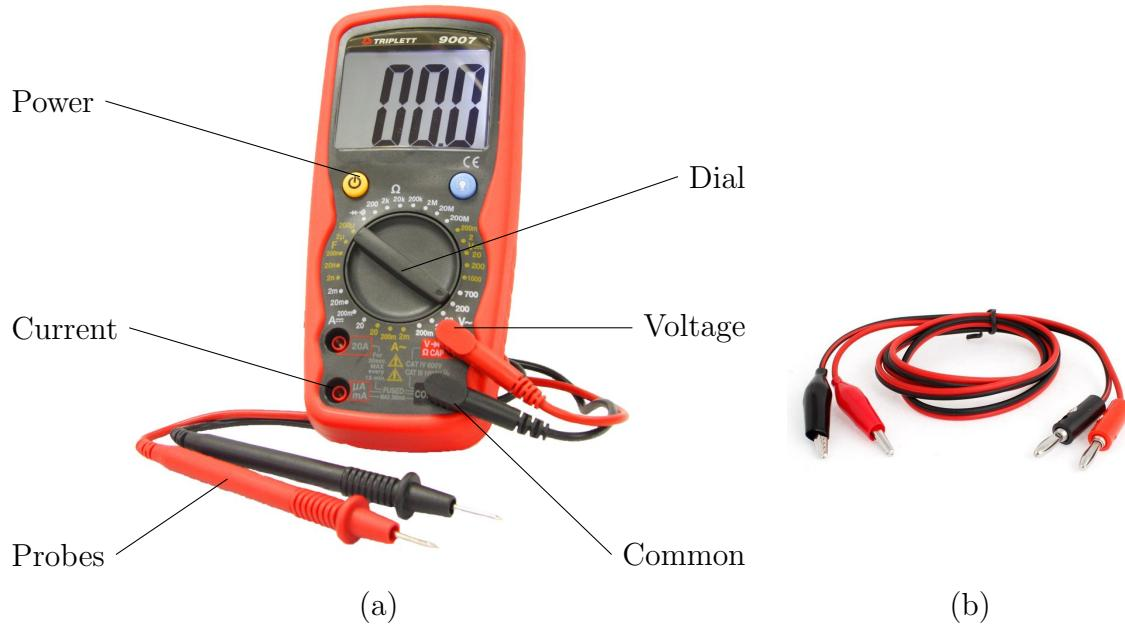

Figure 2.2: Your (a) digital multimeter (DMM), the Triplett 9007, and (b) alligator clip probes.
Your primary digital multimeter (DMM), the Triplett 9007 shown in Fig 2.2, can be used to make a number of measurements including resistance, DC current, and DC voltage. We'll measure a DC voltage to start. This lab will be most convenient if you use alligator clip probes in your DMM. Install a black alligator clip probe in the "Common" terminal, and a red alligator clip probe in the "Voltage" terminal directly above the Common terminal. Clip the alligator clips together so that you expect to measure 0 V. Now power the DMM by pressing the power button, and turn the voltage dial to the DC voltage measurement, the V with one straight and one dashed line next to it. Most measurements on your DMM have a number of different full range settings. For the highest precision, you should use the smallest full-range setting larger than your measurement. We'll be measuring 10 V, so use the 20 V (DC) setting.